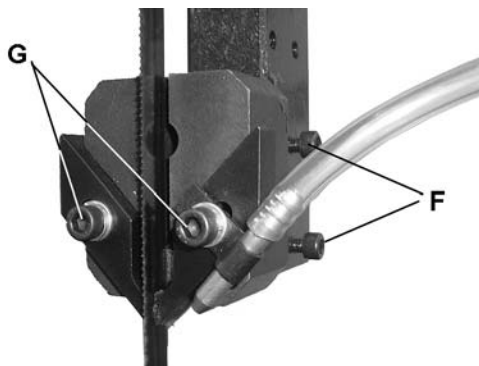

Figure 9
2. Loosen two set screws (F, Figure 9) and adjust guide so that blade guides are in back of saw teeth. Blade guides must be adjusted far enough back to clear saw blade even during cutting operation when the blade is deflected toward the rear.
3. Tighten the two screws (F, Figure 9).
5. Loosen two socket head cap screws (G, Figure 9) and adjust each finger toward the blade. They should not touch the blade. Adjust for 0.010" clearance on either side.
6. Retighten the two screws (G, Figure 9) once proper adjustment has been made. Be sure that adjustment for air nozzle has not changed and it directs the flow of air to the cut.